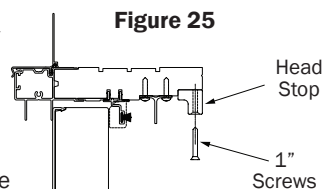

Figure 25
27. Remove the head stop by backing out the 1" Flat Head Screws and put aside (Fig. 25). These will be re-installed.